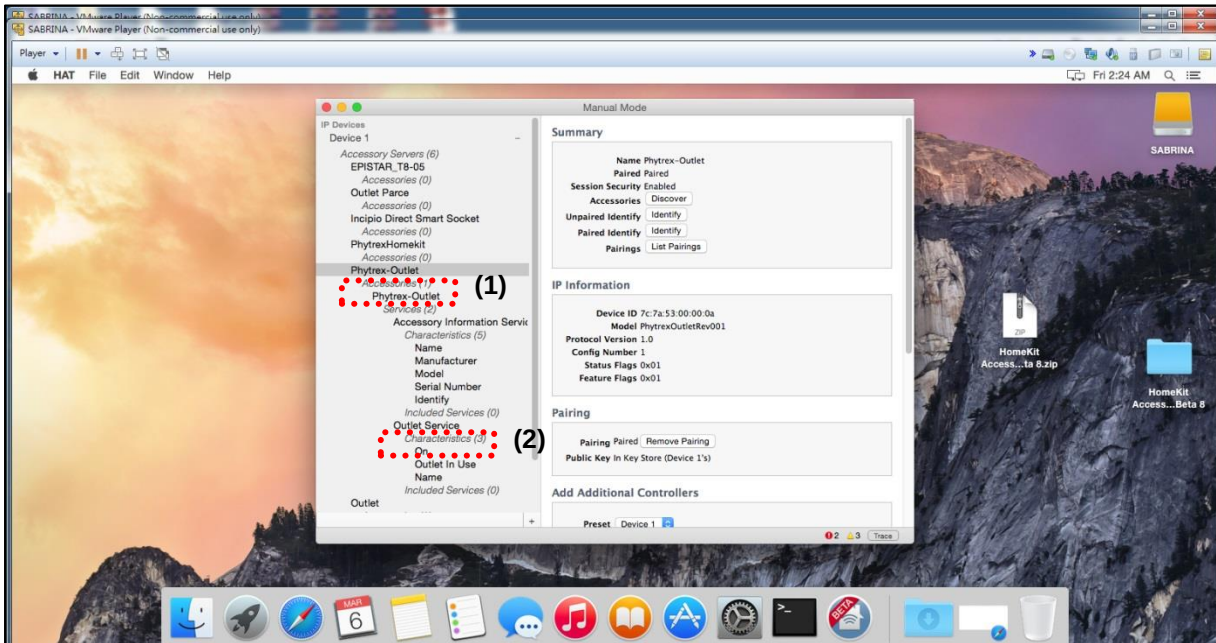

Figure 26 : Select the Accessory you want to control (e.g. Phytrex Outlet)
- Step 7 Control the Accessory, select the "Outlet Service" and Press the "on" for switch characteristic (Figure 26)